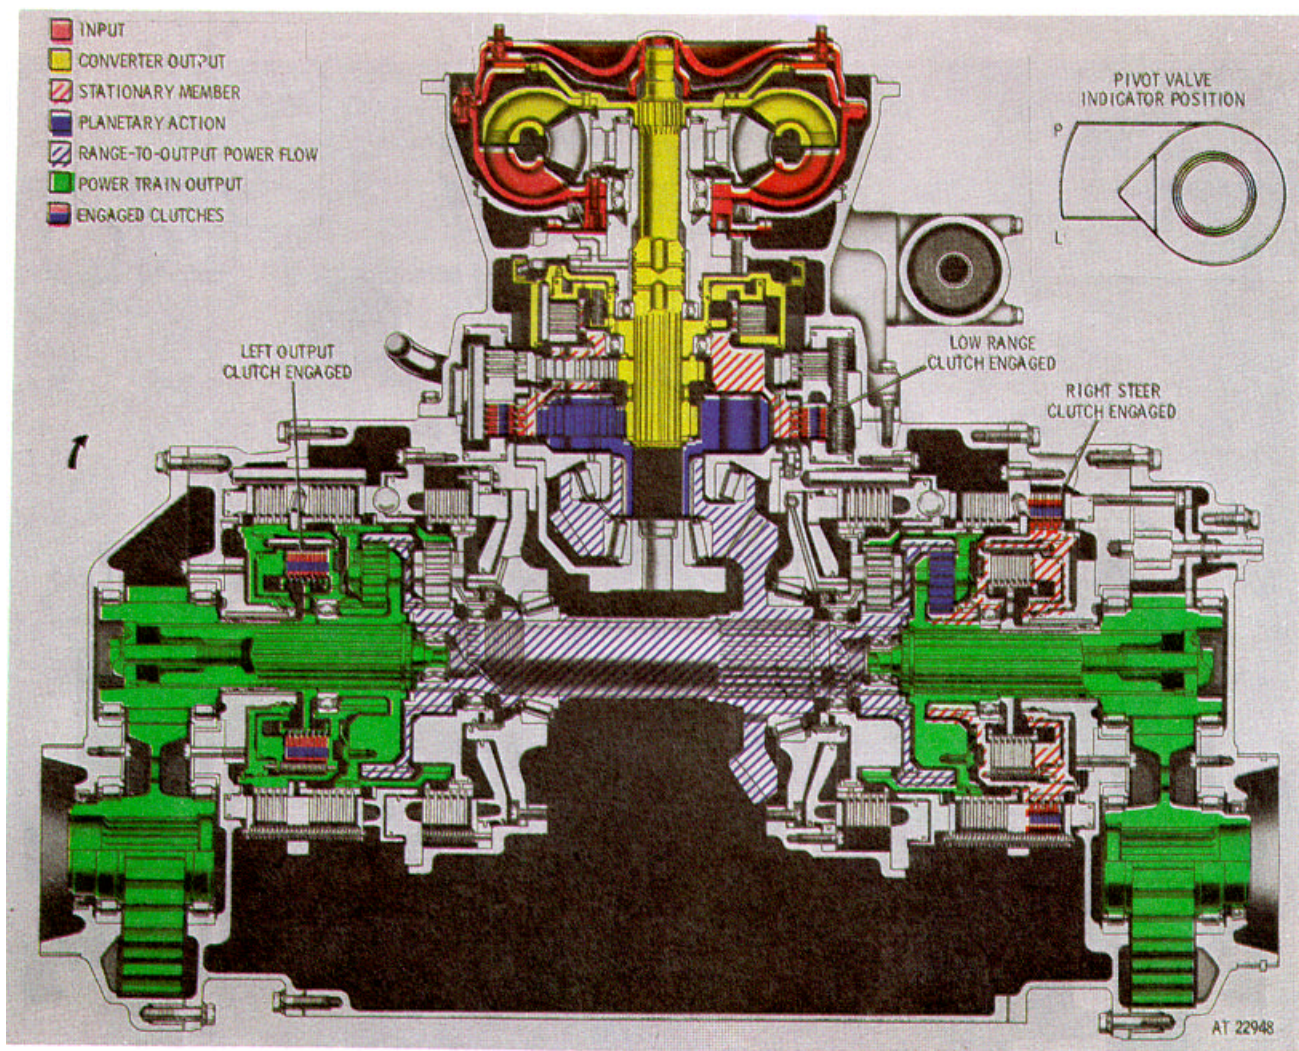

Figure 2-22. *Second gear. Normal steer operation-torque path.*
The related mechanical functions required for this travel operation are described in paragraph 2-51*b*, and illustrated in figure 2-22.
(3) In first gear, normal right steer operates in the same manner as left steer except the actions described in (1) and (2), above, take place in opposite sides of the transmission. (The right reverse-range clutch is engaged and the left transmission drives as in first gear straight travel.)
b. *Second Gear, Normal Right Steer (fig. 2-22).*